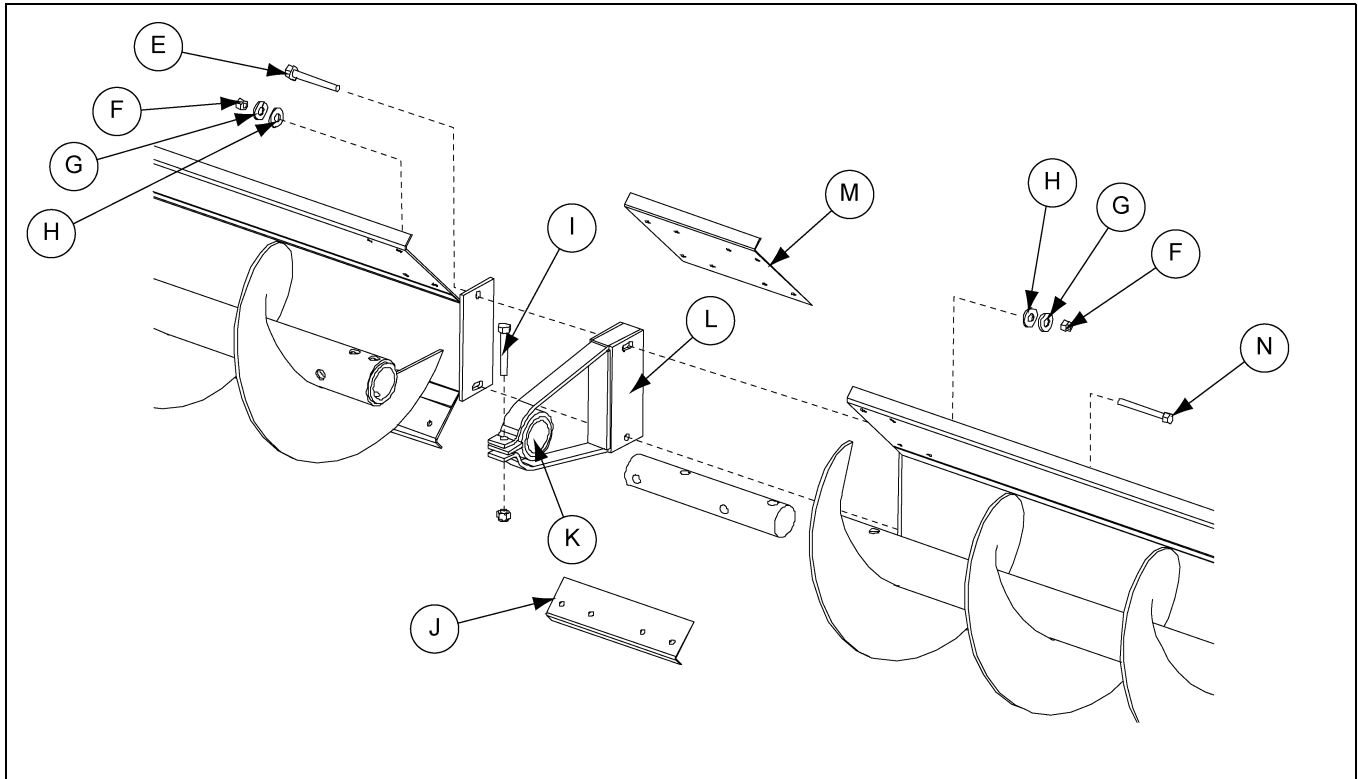

Figure 4I Bearing Stand Assembly
3. Bolt the bearing holders (K) to the inside of the bearing stands (L). Use a 7/16" x 1-1/2" long hex head cap screw and nylon lock nut to secure the bearing holder (K) to the bearing stand (L). *(See Figure 4I on Page 21.)*
4. Place the bearing stand (L) between the first sweep back shield section and the next section to be used. Bolt the sweep back shield sections to the bearing stand (L) by using two (2) 3/8" x 3" long hex head cap screw (N), two (2) flat washers, two (2) lock washers and two (2) nuts. *(See Figure 4I on Page 21.)*